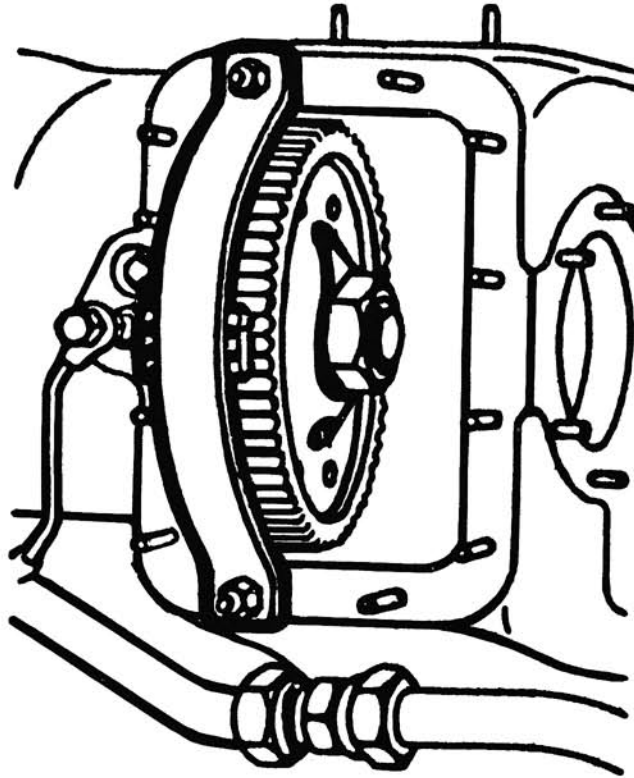

FIG 17 GEAR WHEEL LOCKING DEVICE
- (1) Remove camshaft gear wheel cover from both banks.
- (2) Fit gear wheel locking device to both camshaft gear wheels. Fig.17.
- (3) Check security of lock nuts and tighten if necessary.
- (4) Remove locking device and fit cover.